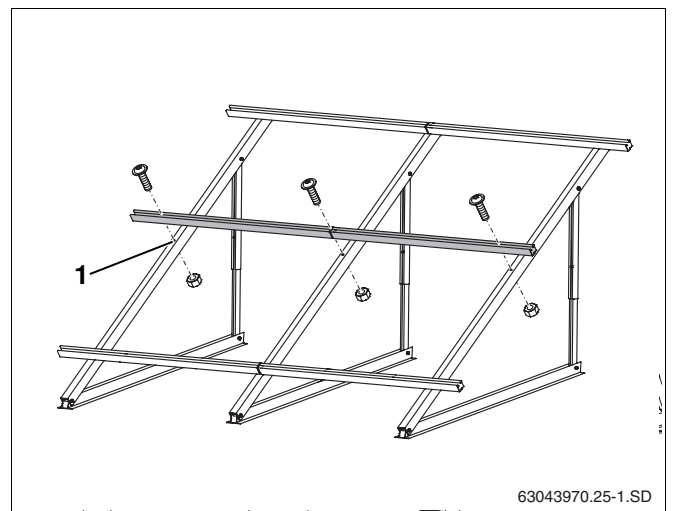

Fig. 35 Fitting additional profile rails
- Fasten additional profile rails as described in Chapter 5.5.2 "Installing profile rails", using the middle hole on the profile (Fig. 35, **Item 1**).